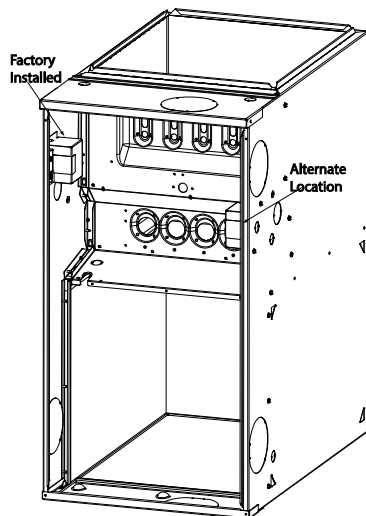

Fig. 26 – Relocating J-Box
1. Remove and save two screws holding J-Box. (See Fig. 26).
NOTE: The J-Box cover need not be removed from the J-Box in order to move the J-Box. Do NOT remove green ground screw inside J-Box. (See Fig. 26).